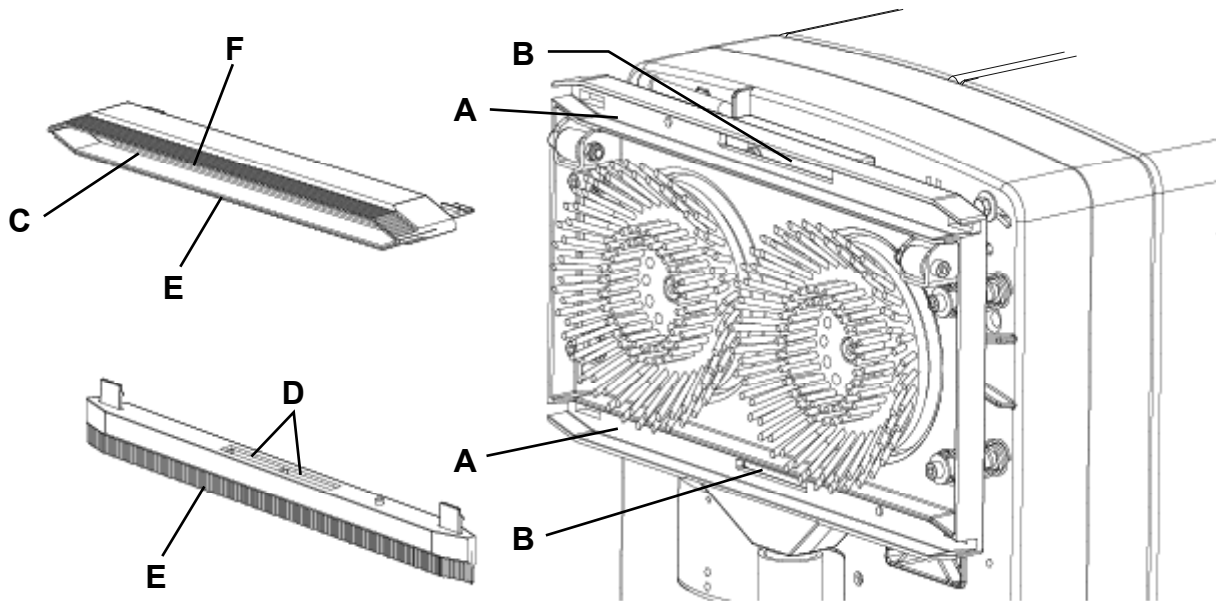

Figure 3
2. Make sure that the power supply cable (10) is disconnected from the electrical mains.
3. To reach for the brush/squeegee-holder deck, lift the machine by using the handlebar (2).
4. Remove the squeegees from the deck by pressing the fasteners (27).
5. Check the brush/squeegee-holder deck (9) and clean it, in particular, clean the compartments (A, Fig. 3) and the vacuum hole (B).
6. Wash and clean the squeegee. In particular, clean the compartments (C) and the vacuum hole (D) from dirt and debris.
7. Check that the blade (E) and the blade (F) are integral and free from cuts and lacerations; if necessary replace them.